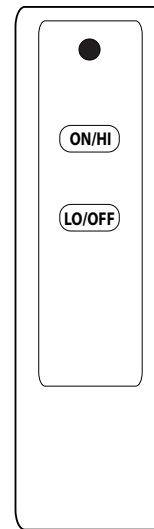

Fig. 23-1 Remote transmitter detail
2. Locate the remote transmitter and press and hold the **ON/HI** button (see Fig. 23-1). The ignition sequence will begin.